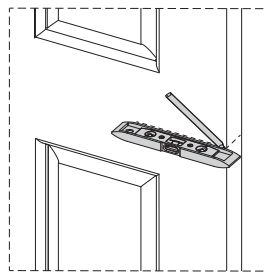

Figure 2.
- 1.3. Using a spirit level, mark the door at the desired height, continuing the line from the front of the door, around the edge and onto the back of the door. (Figure 2)